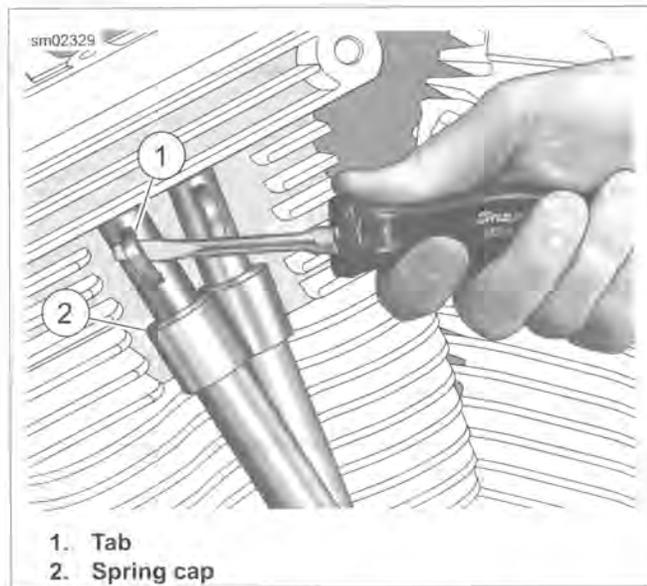

Figure 3-15. Removing Spring Cap Retainer
1. See Figure 3-15. Insert the blade of a small screwdriver into tab (1) of spring cap retainer. While pushing down on spring cap (2), rotate bottom of screwdriver toward outboard side to remove. Repeat step on second pushrod cover.